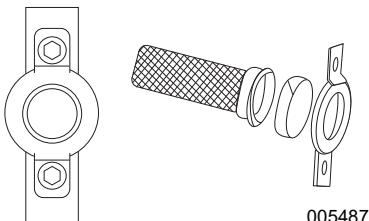

Figure 4-8. Spark Arrestor Screen
1. See **Figure 4-8**. Remove the clamp to remove retainer.